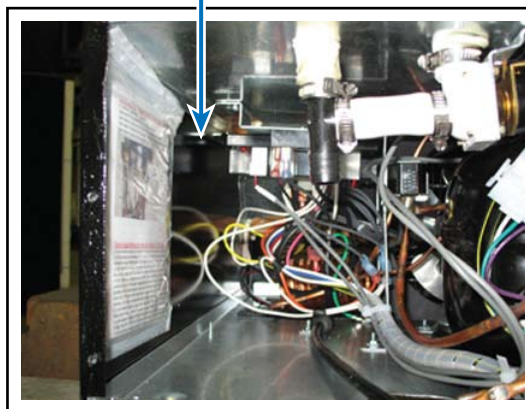

Figure 8
6. Take out the screw that secures the top of the electrical bracket located in the front of the mechanical area (see **Figure 8**).
7. Remove the six screws that secures the baseplate to the cabinet on the bottom of the unit (see **Figure 8**).
8. Gently slide the mechanical out the back of the unit just enough to gain access to the drier assembly (see **Figure 8**).
7. Remove the six screws that secure the baseplate to the cabinet on the bottom of the unit (see **Figure 8**).